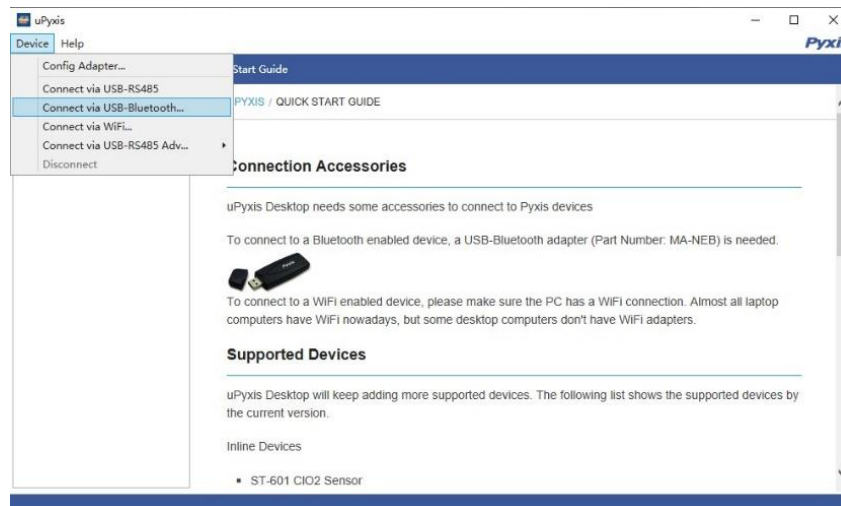

Figure 24.
4. On **uPyxis®** Desktop App, click **Device** → **Connect via USB-Bluetooth** (Figure 24).
5. If the connection is successful, the SP-350RO and its Serial Number (SN) will be displayed in the left pane of the **uPyxis®** window.